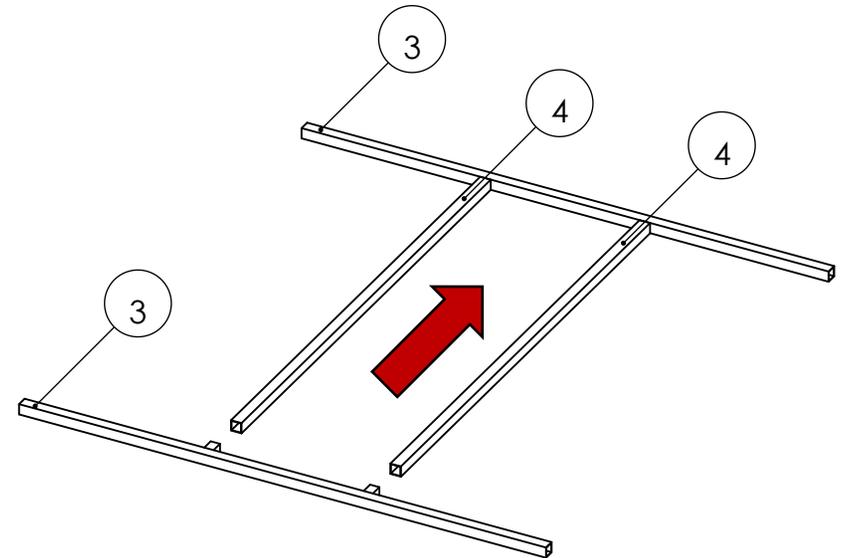

Figure 1
1. **Prepare the rack for assembly.** Begin by setting (2) Crossbars B (Item No. 3) perpendicular to (2) Support Bars (Item No. 4). As shown in Figure 1, slide the Support Bars into the welded tubes found on both the Crossbars B.